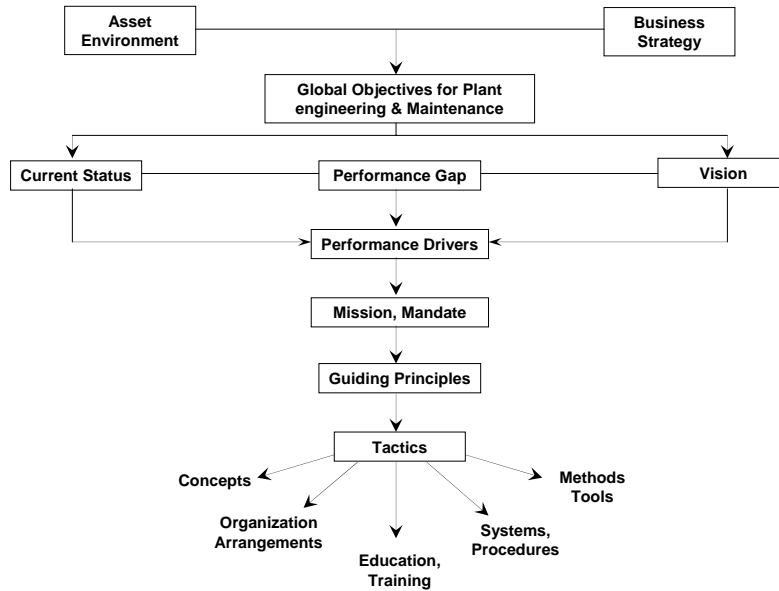

Figure 1-2. Maintenance Strategy Model
- ❖ Building a maintenance strategy follows the model described in Fig.1.2.
- Example: One business with a solid history of reliability and profitability developed an overall physical asset management strategy, which dealt with most of the asset management process described in Figure 1-2.**